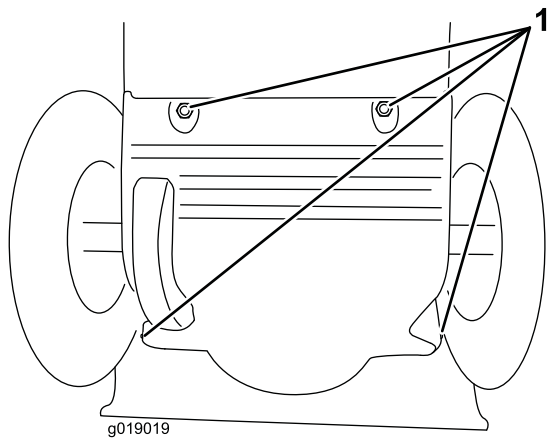

**Figure 45**
Lightly lubricate the hex shaft yearly with automotive engine oil (Figure 45).
**Important:** Do not get oil on the rubber wheel or the steel friction pulley because the traction drive will slip (Figure 45).